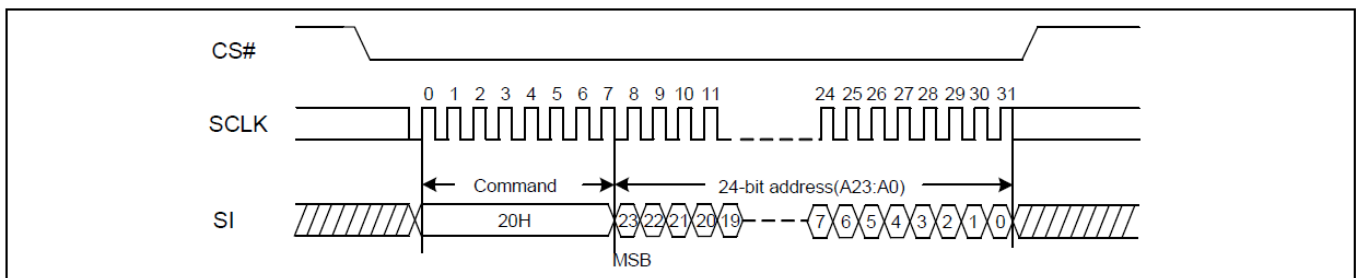

Figure8. Sector Erase Sequence Diagram
The Sector Erase command sequence: CS# goes low→sending Sector Erase command→3-byte address on SI→CS# goes high. The command sequence is shown in Figure8. CS# must be driven high after the eighth bit of the last address byte has been latched in; otherwise the Sector Erase (SE) command is not executed. As soon as CS# is driven high, the self-timed Sector Erase cycle (whose duration is  $t_{SE}$ ) is initiated.